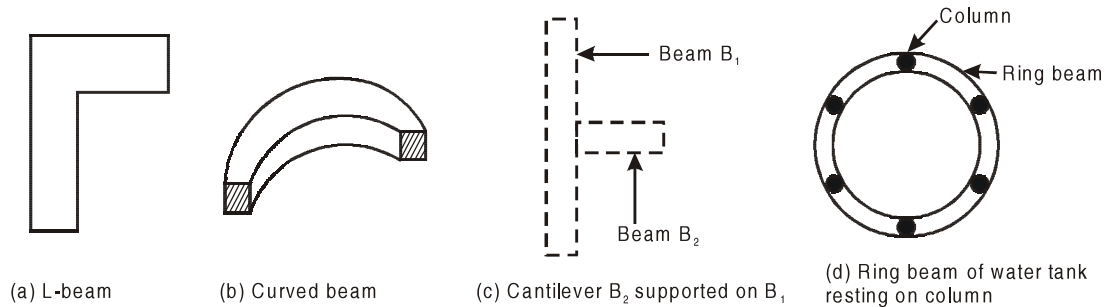

Fig. 3.1 : Types of Elements subjected to torsion
- Example:- Small beam B_2 is cantilevered from Beam B_1 . Beam B_1 is considered fixed at columns. Here negative moment of beam B_2 will be the torsional moment of beam B_1 (Refer fig. 3.1 (C))